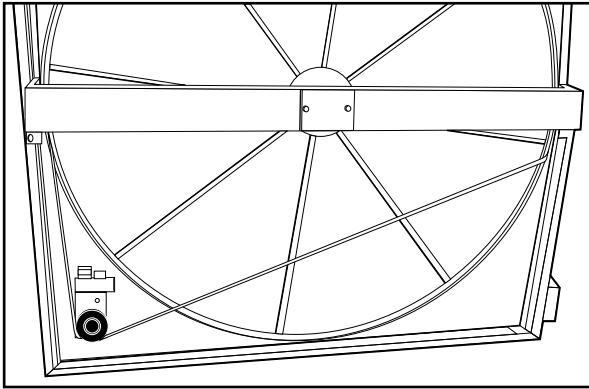

Fig. 194 — Belt Removal
9. Lift and remove the belt from the wheel rim between a point opposite the pulley and belt retaining clip and stretch over pulley (see Fig. 194).